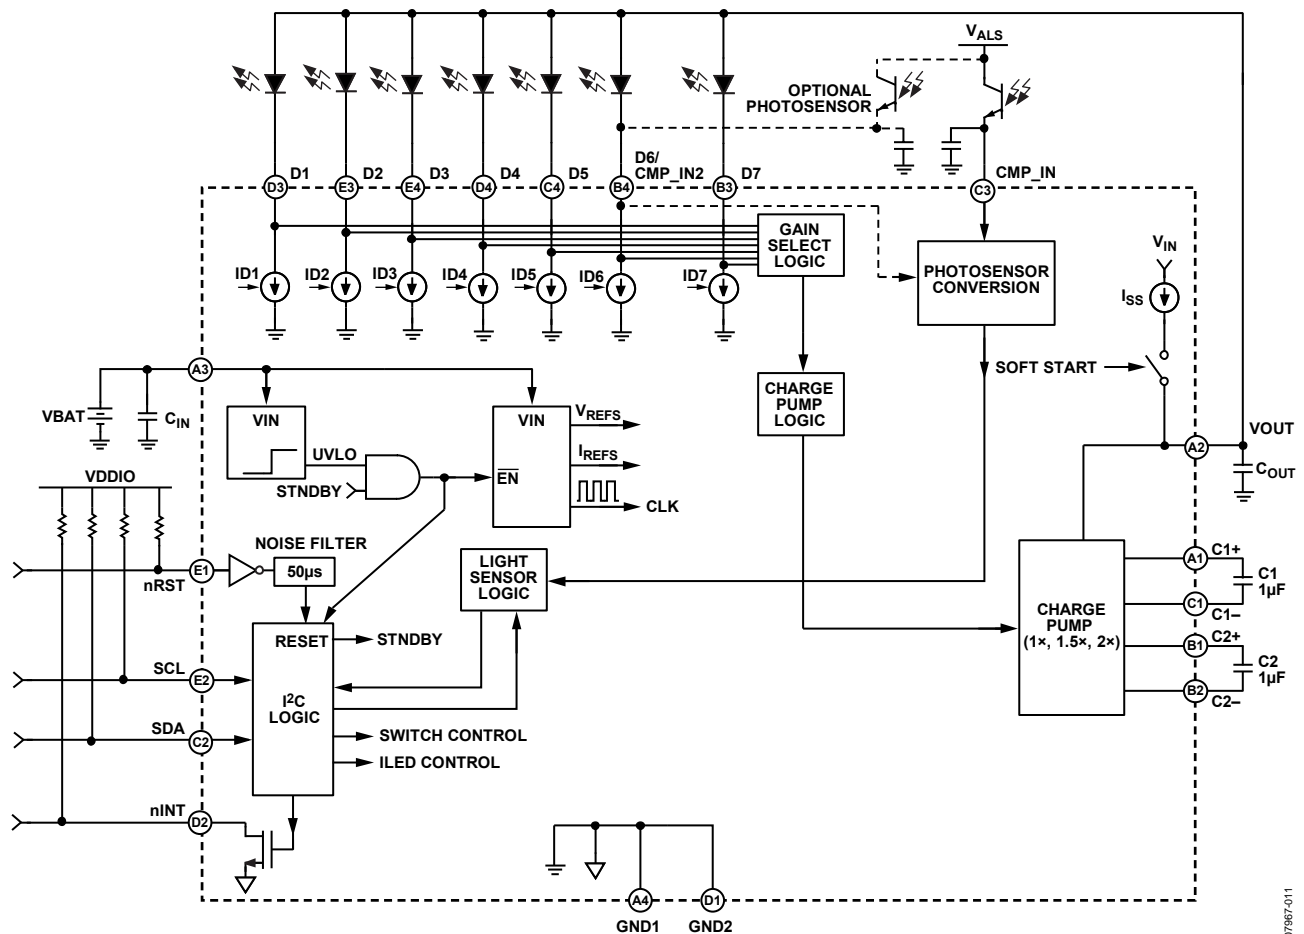

Figure 26. Detailed Block Diagram
By charging the capacitors in different configurations, the charge, and therefore the gain, can be optimized to deliver the voltage required to power the LEDs. Because a fixed charging and discharging combination must be used, only certain multiples of gain are available. The ADP8860 is capable of automatically optimizing the gain (G) from 1×, 1.5×, and 2×. These gains are accomplished with two capacitors (labeled C1 and C2 in Figure 26) and an internal switching network.